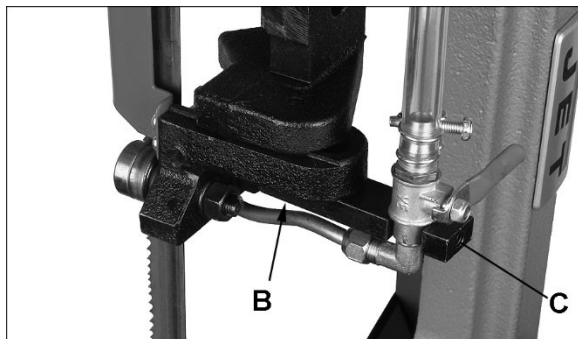

Figure 8-3: upper blade guide rotation (712D only)
4. Repeat above step for top blade guide bracket. NOTE: Loosen set screw (C, Figure 8-3) and slide coolant valve assembly out of slot to access screw (B). When adjustment is